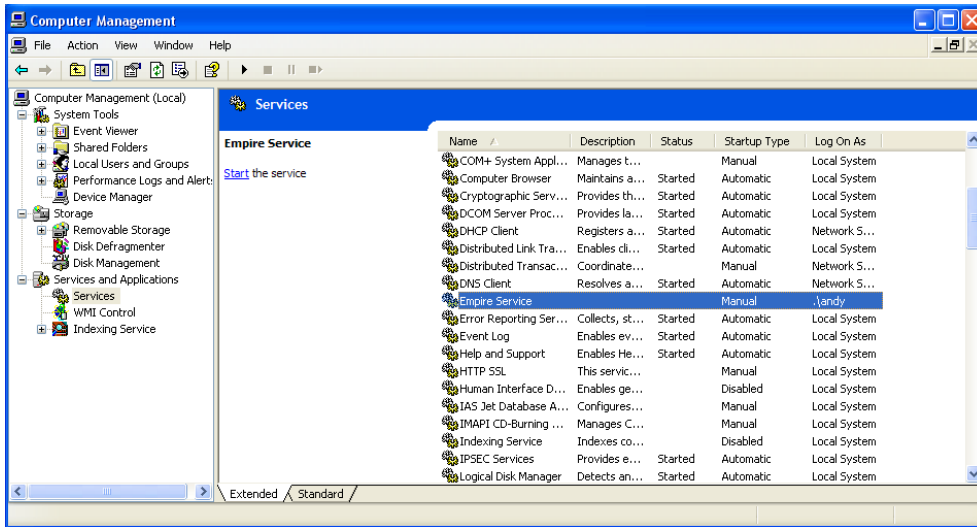

Figure 5.3.: Starting the remote server as a Windows service
- Double left click on **Services**, see Figure 5.3